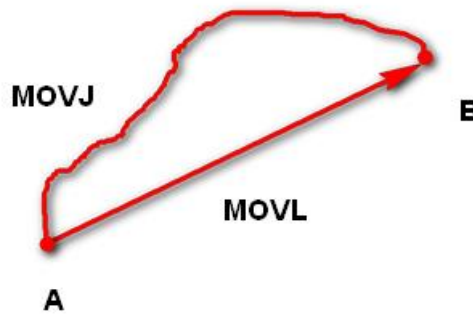

Figure 2.7 MOVL/MOVJ mode
- **MOVJ**: Joint movement. From point A to point B, each joint will run from the initial angle to its target angle, regardless of the trajectory, as shown in Figure 2.7.
- **MOVL**: Rectilinear movement. The joints will perform a straight line trajectory from point A to point B, as shown in Figure 2.7.